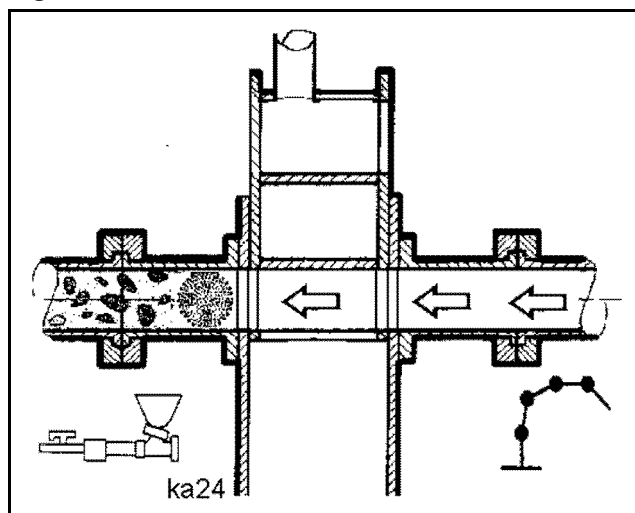

Fig. 465
- Extend the chamber once more (**Fig. 465**).